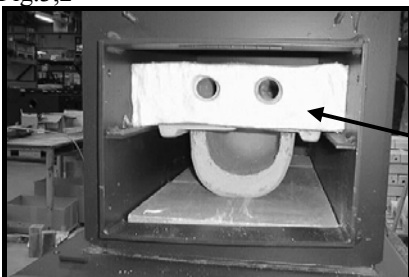

Fig. 3,3
10. Install the gaskets so that the holes are aligned with the air holes in the ends of the bricks. See Fig. 3,3.